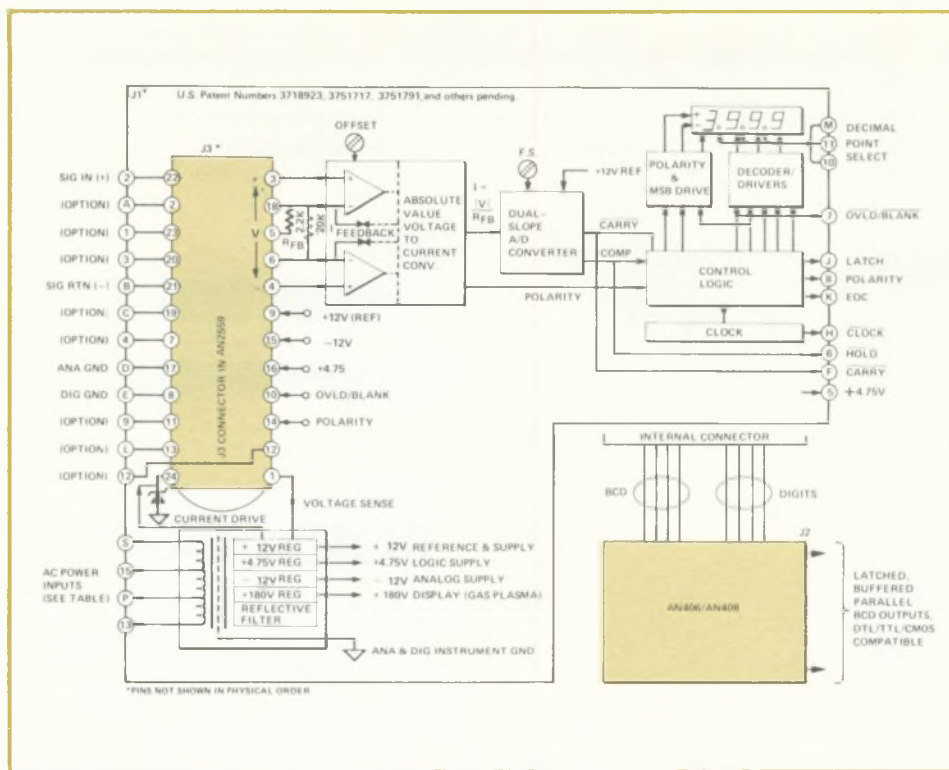
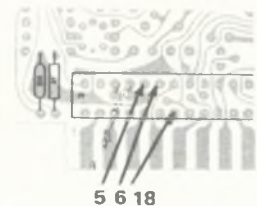

Figure 2. Simplified Schematic Diagram of AN2559.
Figure 6. PC-Board Scaling Connections
As shown in Figure 2, the AN2559 contains a floating true differential front end; an absolute-voltage-to-current converter; a dual slope ratio-metric, current-to-count integrating analog-to-digital converter; clock-driven logic control circuits, decoders, drivers, and displays; and regulated power supplies derived from secondary windings of the universal transformer.
Signal input to connector J1 is conditioned by arbitrary signal conditioning on the analog option card inserted in internal connector J3, resulting in a potential difference (V) at J3, Pins 3 and 4, connected to the non-inverting inputs of the differential input amplifiers. The conditioned signal input (V) develops a unidirectional signal current (I) whose magnitude depends on the value of the selected feedback resistance (R_{FB}), according to the simple Ohm's Law formula shown in Figure 2. The signal current linearly charges a high quality, low leakage, integrating capacitor during the signal integration phase of the dual-slope conversion. The current generation circuit also includes the polarity sensing for display.
With a $20,000\Omega$ feedback resistor (R_{FB}) connected as shown in Figure 2, the DPI is normally calibrated at the factory for a full-scale range of 4 volts/4,000 counts. A thermally tracking internal resistor ($2,200\Omega$) may be connected in parallel with the $20,000\text{-ohm}$ resistor by connecting pins 5 and 6 on J3. See Figure 6. The parallel resistance of 2000 ohms provides the user-selectable sensitivity of $100mV/1,000\text{ counts}$ ($100\mu V/\text{count}$).
To hold a displayed reading, gate a HOLD command (the comparator output shown in Figure 2) with the rising edge of EOC (available at J1, Pin K). Then, generate a DTL low level signal (HOLD). When applied to Pin 6 of J1, the HOLD signal will keep the last conversion displayed, while the DPI continues to update the measurement internally. When HOLD is removed, the next valid measurement is transferred to the display latches.